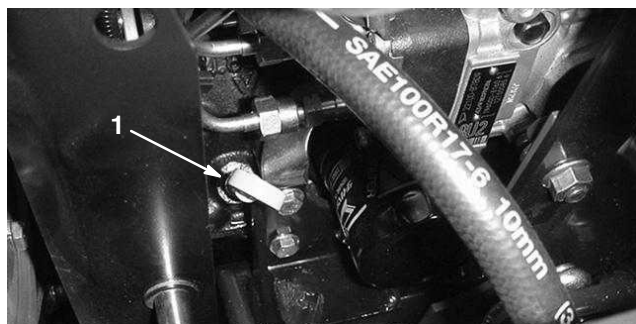

Figure 19
2. Remove dipstick and wipe it with a clean rag (Fig. 19). Insert dipstick into tube and make sure it is seated fully. Remove dipstick and check level of oil.